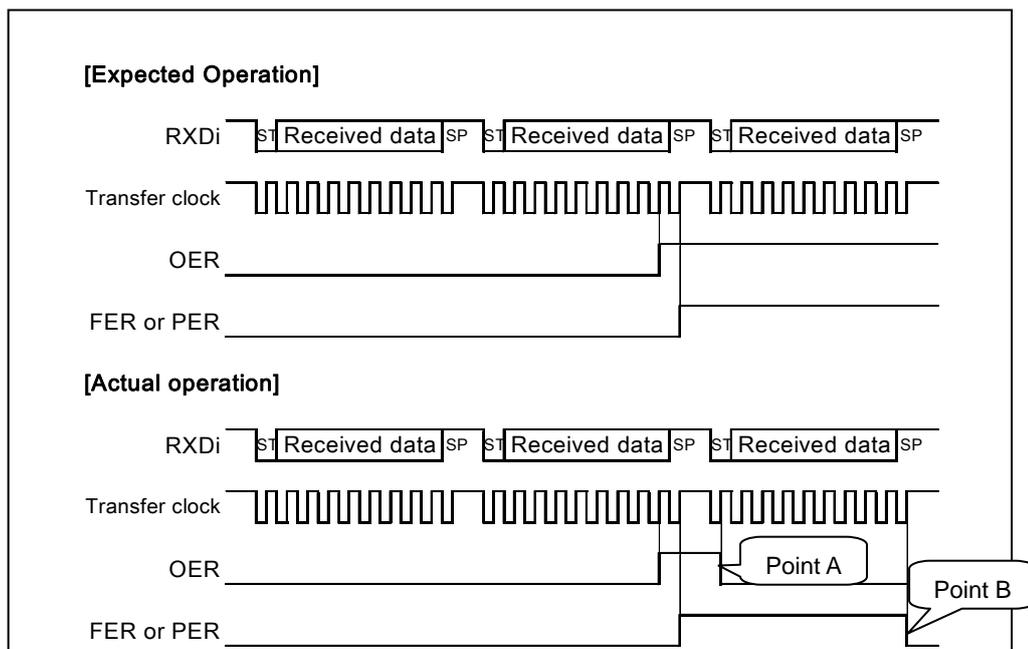

Figure 2. Receive Operation in Clock Asynchronous Serial I/O Mode
- 2) The framing error flag (FER) is set to 1 when a framing error occurs, but it is cleared to 0 when the next transfer is completed. ----- Point B in Figure 2
- 3) The parity error flag (PER) is set to 1 when a parity error occurs, but it is cleared to 0 when the next transfer is completed. ----- Point B in Figure 2